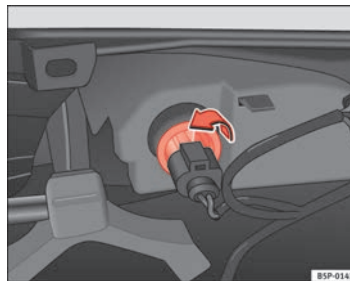

Fig. 193 Lamp on interior side of bumper
- Rotate the bulb holder to the left, and remove it in the direction of the arrow ⇒ Fig. 193.